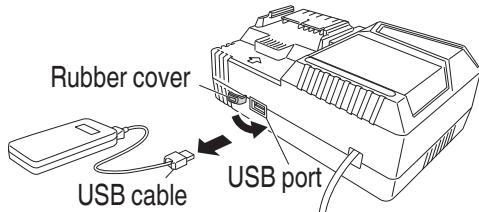

Fig. 51
(3) When charging is completed
- Unplug the power cord from the electrical outlet. (**Fig. 51**)